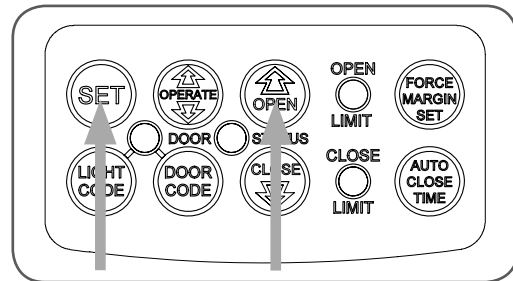

fig 32
- Make sure the door is closed, then press and hold the OPEN button for six (6) seconds (**Fig. 32**), until you hear three beeps and the OPEN and CLOSE LEDs flash rapidly.